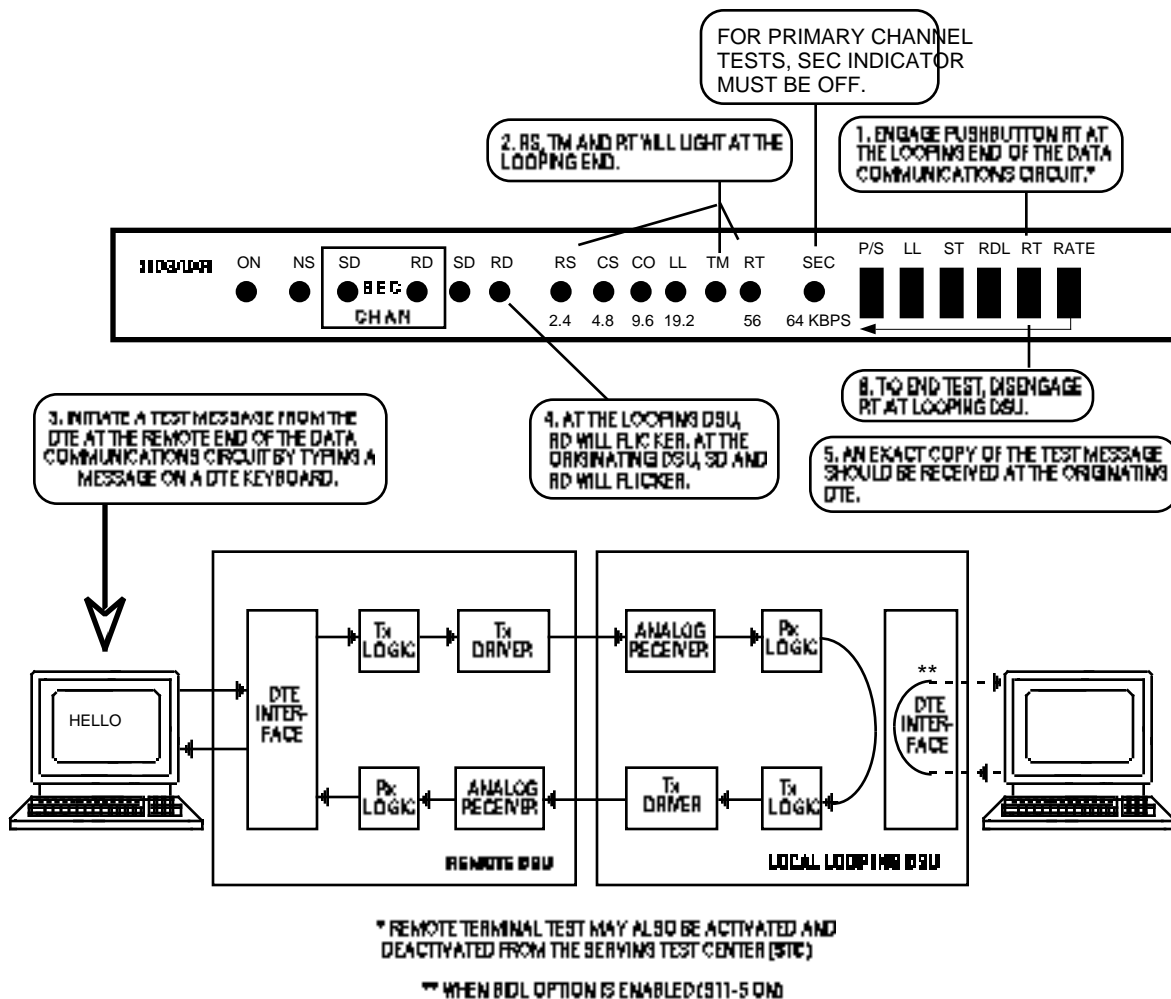

FIGURE 4-3. PRIMARY REMOTE TERMINAL TEST, LOCALLY CONTROLLED
Remote Terminal (RT) test checks performance of local and remote DSUs, the remote DTE, and the communications line. When the test is initiated, the local looping DSU transmitter input and receiver output are disconnected from the DTE interface and connected together, creating a circuit that loops the receiver's digital output signals to the transmitter's input. Figure 4-3 illustrates RT.